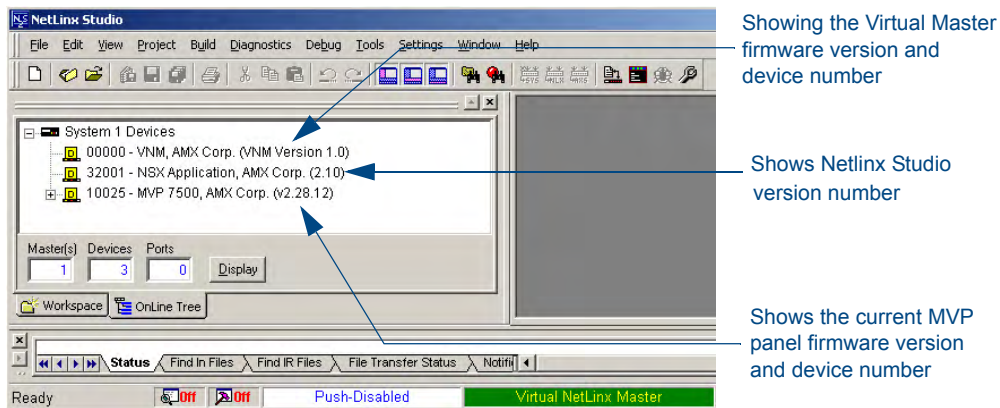

FIG. 72 NetLinx Workspace window (showing panel connection via a Virtual NetLinx Master)
3. After the *Communication Verification* dialog window verifies active communication between the Virtual Master and the panel, click the **OnLine Tree** tab in the Workspace window (FIG. 72) to view the devices on the Virtual System. *The default System value is 1.*
4. Right-click on the System entry (FIG. 72) and select **Refresh System** to re-populate the list. Verify the panel appears in the **OnLine Tree** tab of the Workspace window. *The default Modero panel value is 1.*